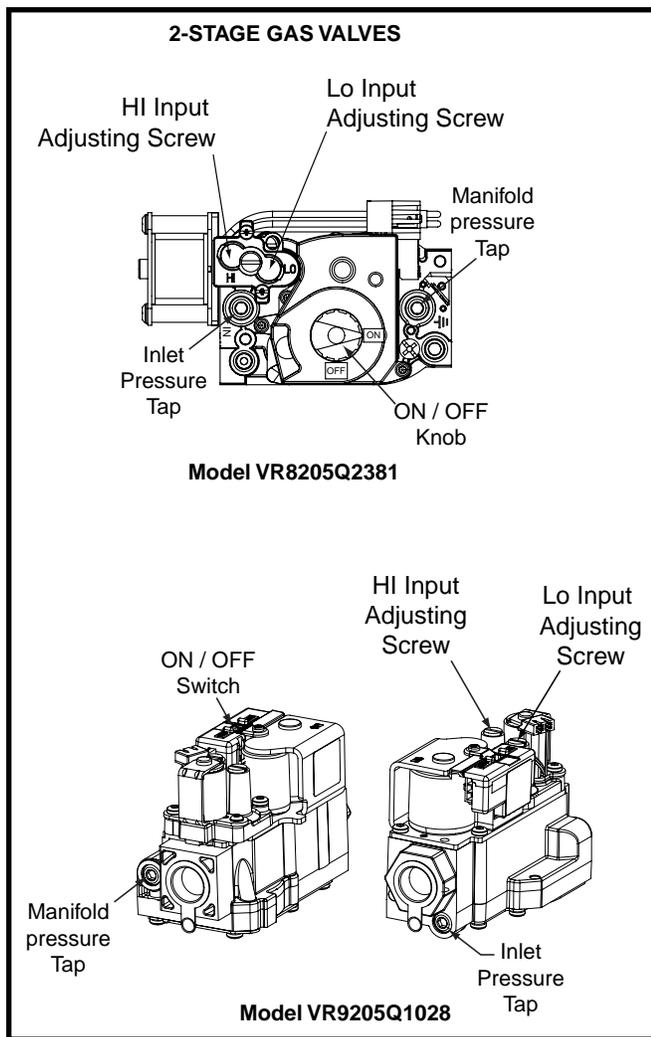

Figure 20. HI & LO Input Adjusting Screws
- c.) Using an Allen wrench, turn the the LO Input Adjusting Screw on the LO side of the regulator to adjust the reduced input setting or turn the HI Input Adjusting Screw (Figure 20, page 24) on the side of the regulator to adjust the full input setting.